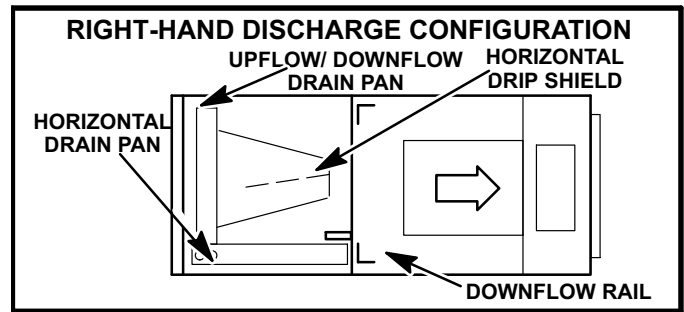

FIGURE 15
- 3- No further adjustment is necessary. Set unit so it is sloped towards the drain pan ($1/4"$ [6mm]). See figure 15.